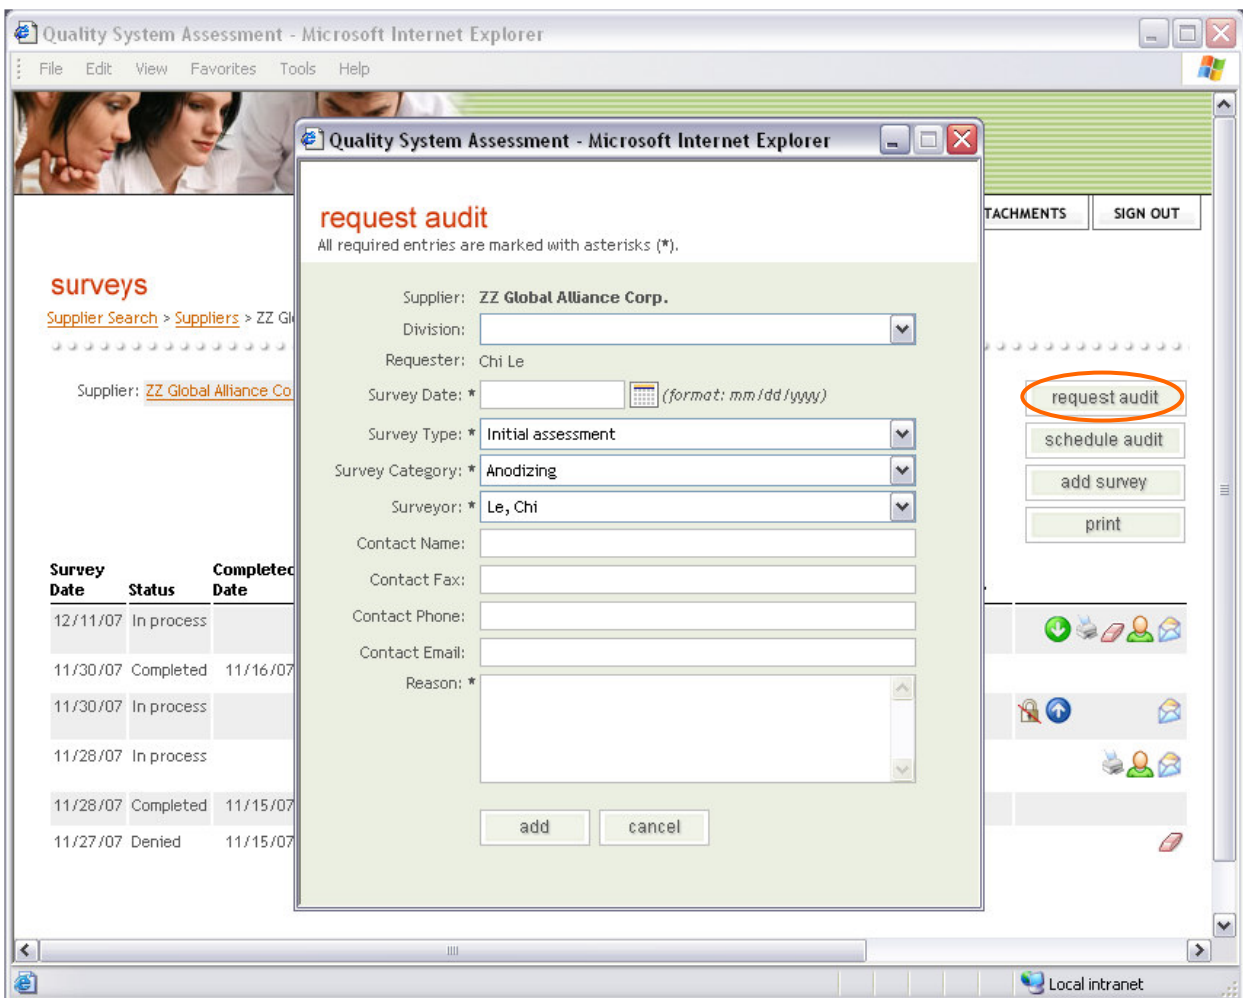

Figure 32 – Request Audit Form
- At the "surveys" page, click on the "request audit" button. A popup form will appear on the screen (figure 32).